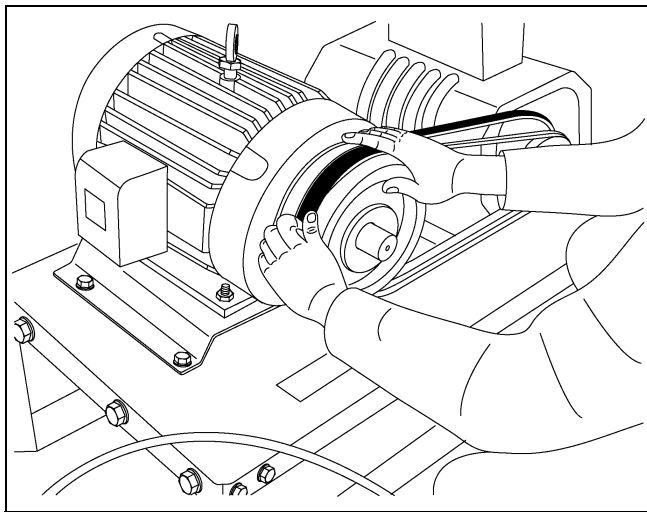
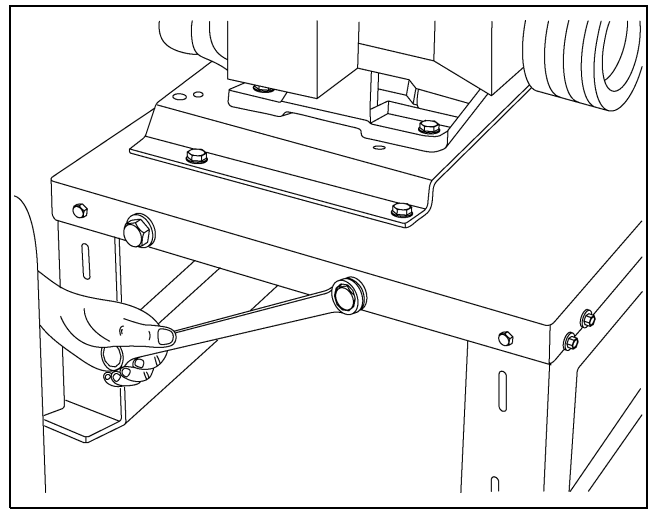

Figure 7H
Figure 7I
7. Place the matching set of V-belts on the pulleys. Tighten the belts by evenly turning the cap screws clockwise. Belts should have 3/8" deflection at 10 pounds pressure per belt. (See Figure 7H and Figure 7I.)